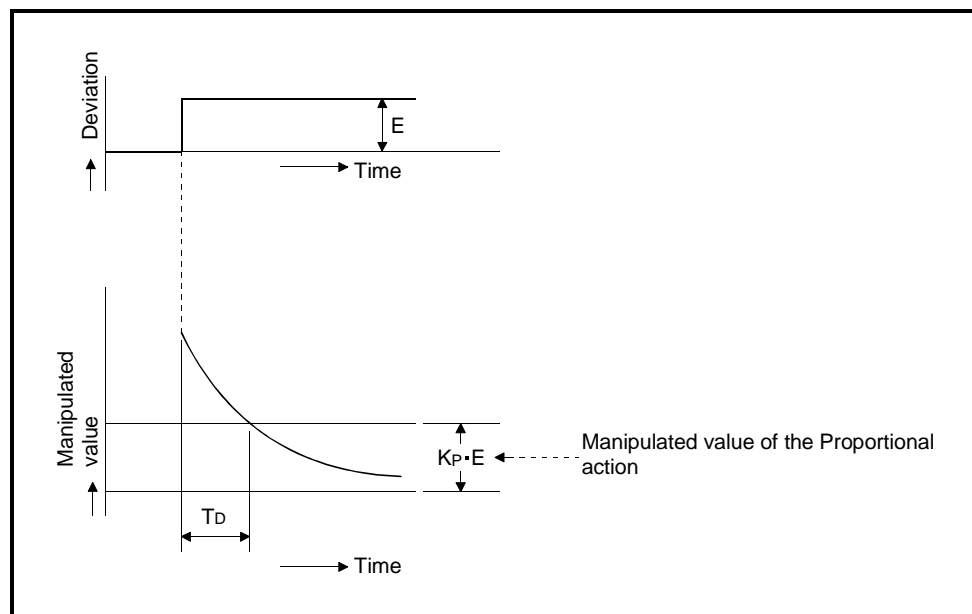

Fig. 1.10 Derivative action for step response
- (2) In the derivative action, the time from the deviation occurrence until the manipulation value of the derivative action becomes that of the proportional action is called the derivative time, and is indicated by T_D .
- (3) The derivative action for the step response when the deviation is constant is shown in Figure 1.10.
- (4) The derivative action is used as a PD action in combination with the proportional action, or PID action in combination with the proportional and integral actions.